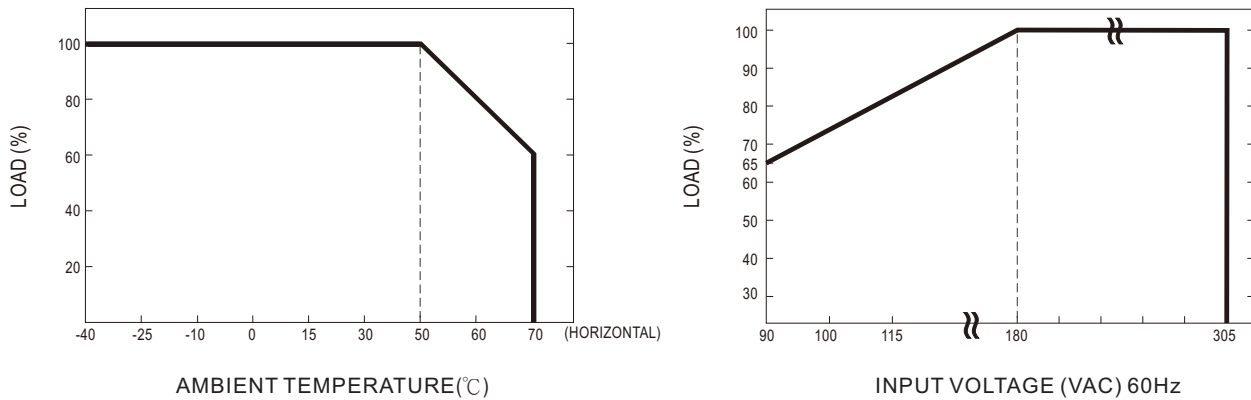

Figure 4-2 Output derating curves
- ⊙ When HEP-1000 is operating at a lower AC input voltage, it will de-rate its output current automatically to protect itself, shown as Figure 4-2.